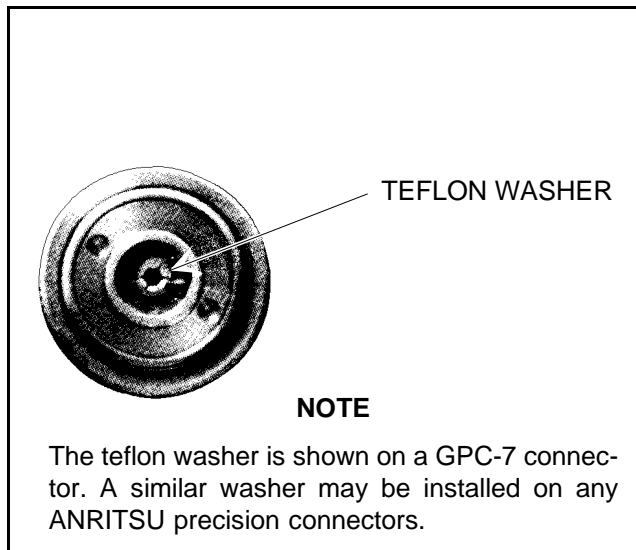

Figure 4. Tuning Washer on GPC-7 Connector
c. Do Not Disturb Teflon Tuning Washers On Connector Center Pins. The center conductor on many SWR Autotester or bridge connectors contains a small teflon tuning washer located near the point of mating (interface) (Figure 4). This washer compensates for minor impedance discontinuities at the interface. The washer’s location is critical to the SWR Autotester or bridge’s performance. *Do not disturb it.*